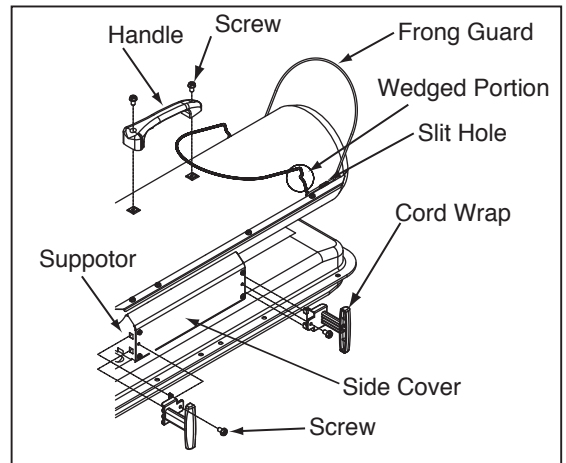

Figure 6. Assembling Handle & Cord Wrap
- 2) Align the holes in the upper housing with two mounting holes on the handle as shown in Figure 6.
- 4) Insert card wrap into the rectangle holes on the supportor and align the hole on the cord wrap with the mounting hole on the side cover as shown in Figure 6. (KFA75H Model only)